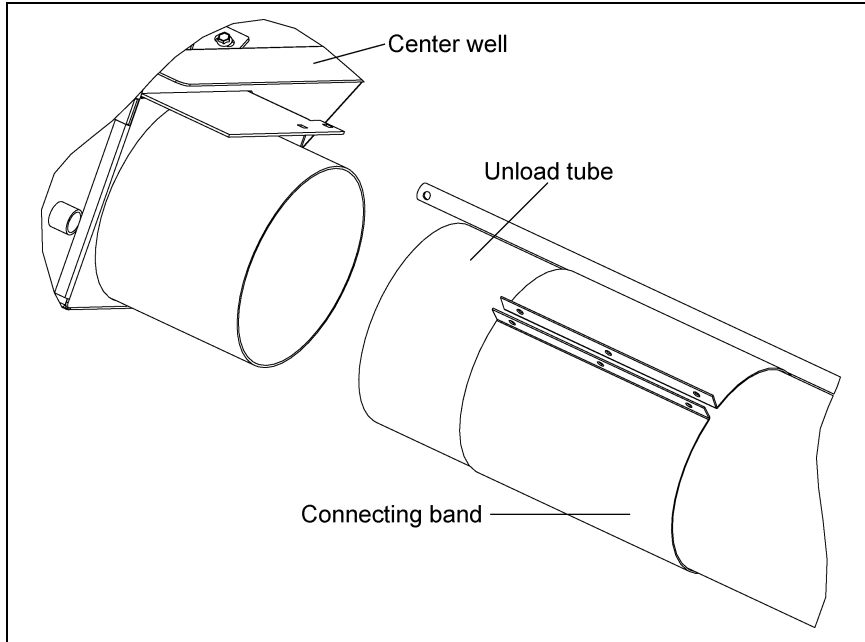

Figure 4H
3. Place the connecting band onto the end of the unload tube closest to the center well. (See Figure 4H.)